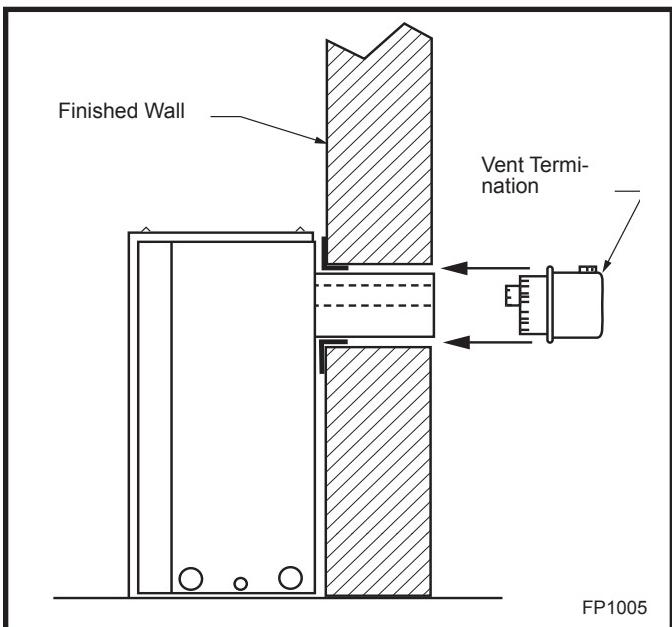

Fig. 20 Side view of final unit location.
Slip 4" and 7" pipes onto respective flue collars. Make sure to fix to the fireplace collar the 4" pipe with three (3) screws before fixing the 7" pipe on the 7" collar. Both pipes must be on a level plane. (Fig 20)